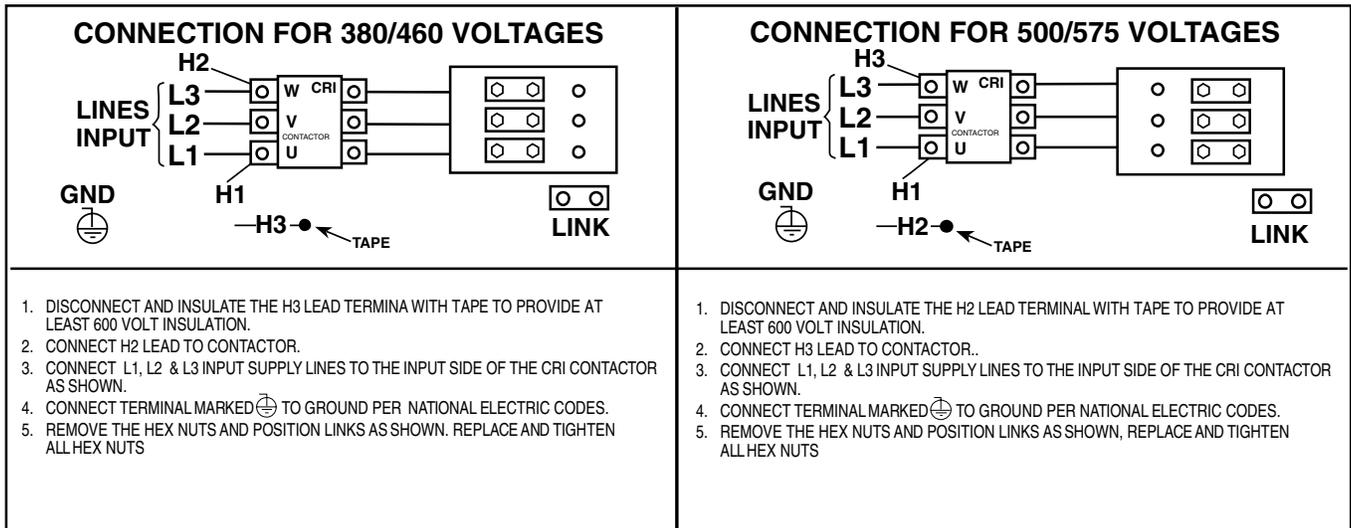

FIGURE A.6-Reconnect Panel Board Positions for 380/500, 460/575 VAC Machines
3. For 380/500-460/575, see Figure A.6. (M15011)